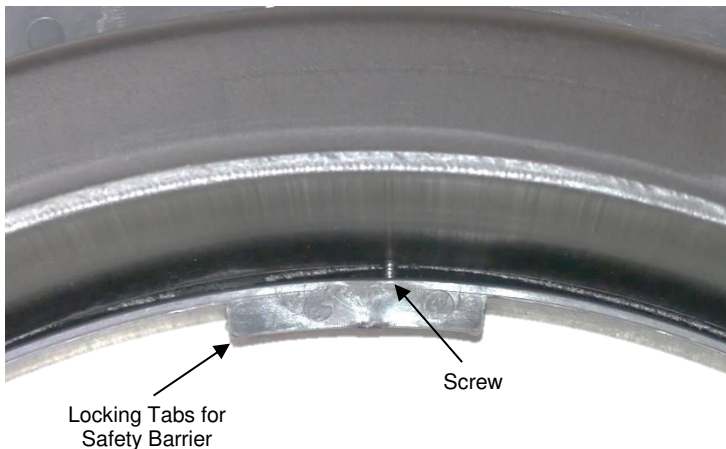
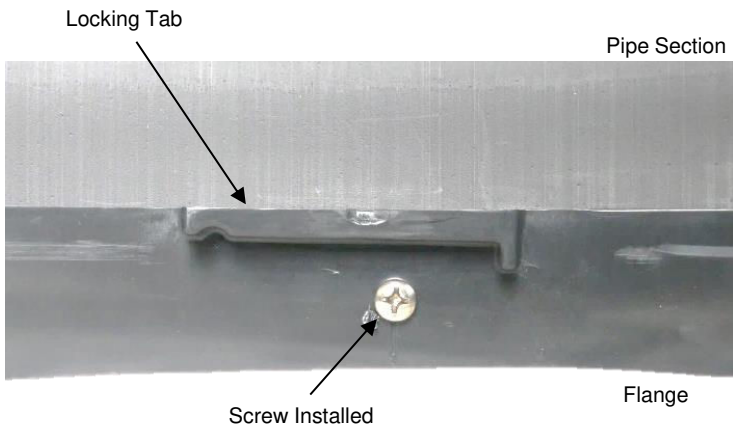
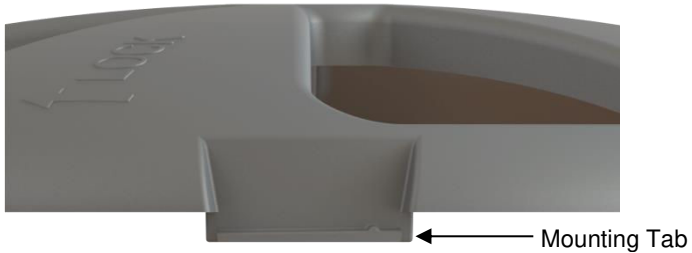
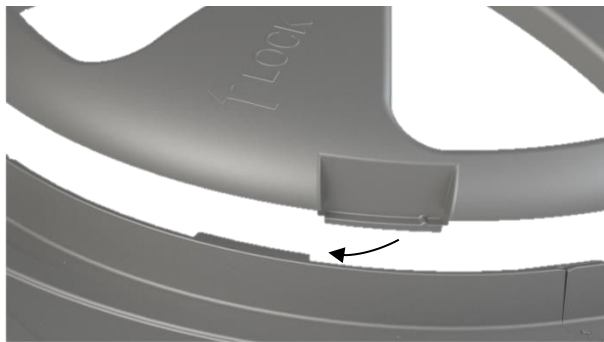

Figure 7: Screw installed (Top down view)
Figure 8: Screw installed (Side view)
Figure 9
Figure 10: Inserting Safety Barrier
- 6.) Install four (4) provided #12 x 3/4" screws into mounting dimples to attach the base flange to the riser pipe. Drive the screws until the head makes contact with the base flange & slightly compresses the flange (Fig 7.) & (Fig 8). There should be a visible gap (approximately 1/2") between base flange & pipe once installed. OPTIONAL: Mounting dimples can be pre-drilled with 1/8" bit to facilitate screw installation.
- 7.) ***Locate the four mounting tabs on the safety barrier (Fig. 9). Insert the safety barrier into the locking tabs on base flange (Fig 8), (Fig. 9) & (Fig. 10). Barrier mounting tabs may require individual adjustment and alignment while seating the barrier onto flange. Note the barrier can bend slightly to accommodate for manufacturing tolerances. Once positioned, apply downward pressure to center of barrier.***